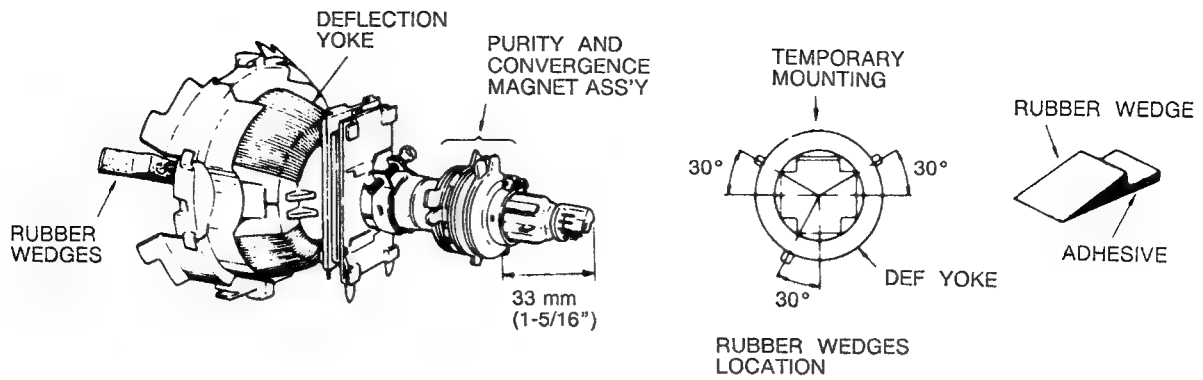

Figure 4.
2. Put a wedge as shown in figure 4. temporarily. (Do not remove cover paper on adhesive part of the wedge.)